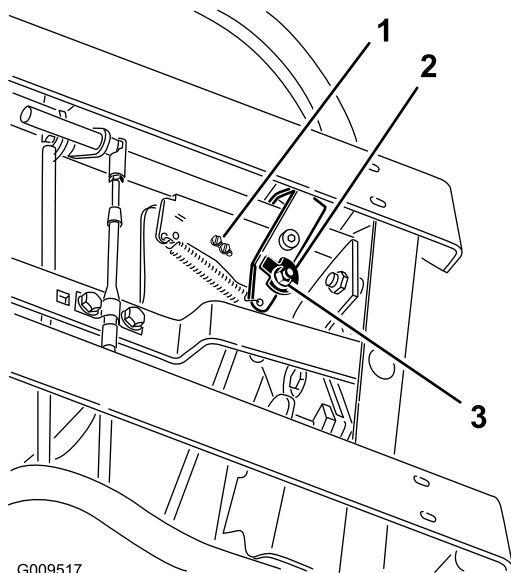
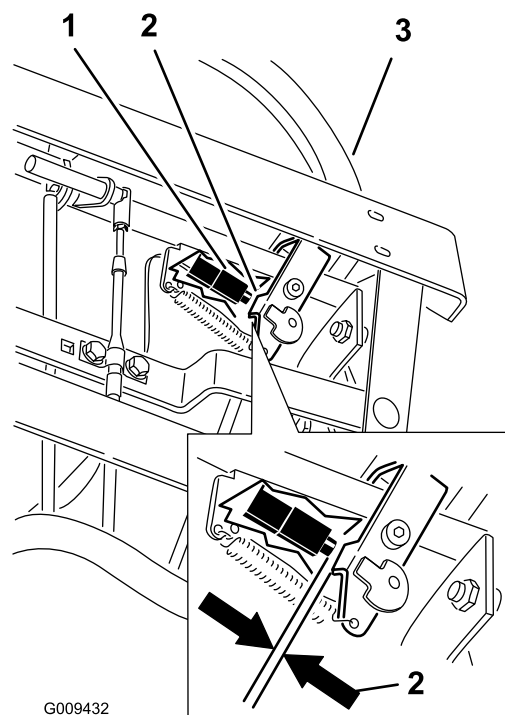

Figure 67
Figure 68
7. Loosen the nut and bolt holding the cam (Figure 67).
10. Check the gap between the control lever and switch as shown in Figure 68. The gap needs to be an 1/8 inch (3mm) with the right motion control lever in the neutral, unlocked position.
11. If needed, loosen the screws holding the switch and adjust the switch (Figure 67 and Figure 68).